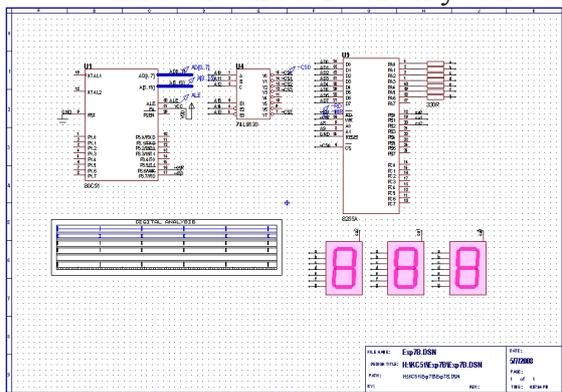

Fig. 4. Experimental Circuit Exp7B.DSN in ISIS.
- 2- Use **File** → **Load design** to open the file-browser, navigate to **Exp8B** folder, and load **Exp8B.DSN** file to ISIS. You will get the design window seen in Fig.4.